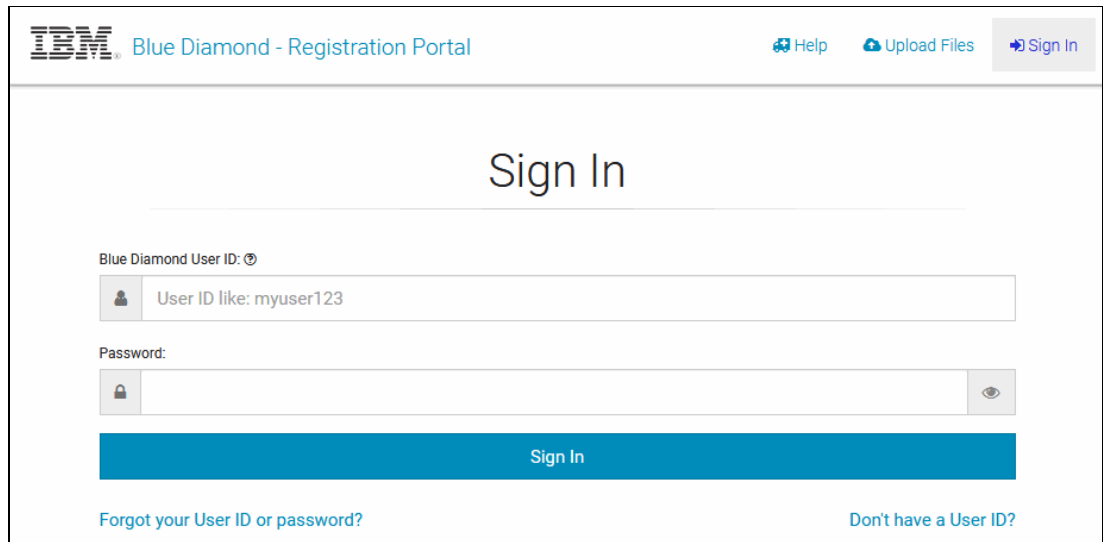

Figure 8-19 Blue Diamond sign in
1. Log into the Blue Diamond Secure FTP portal at <https://msciportal.im-ies.ibm.com/Portal.aspx>, as shown in Figure 8-19 on page 332.
Figure 8-19 shows the IBM Blue Diamond home page.